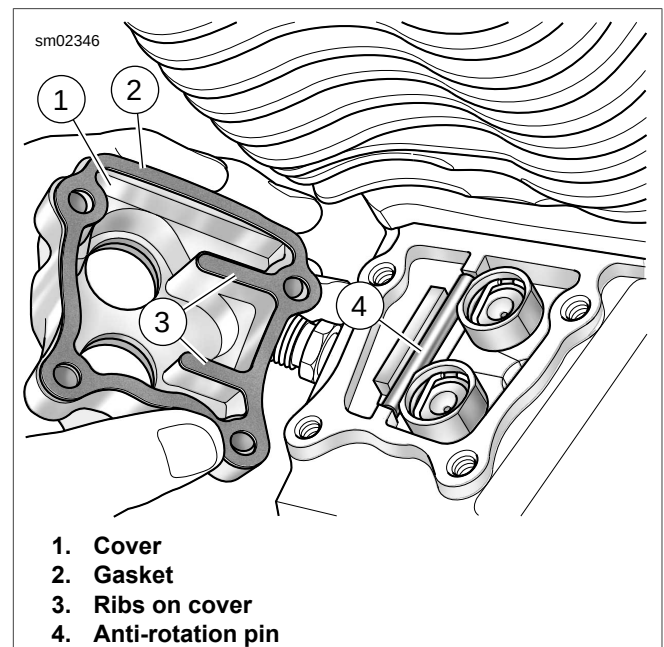

Figure 3-84. Installing Lifters
3. See Figure 3-84. Place the anti-rotation pin (4) on the machined flat between the blocks cast into the crankcase.